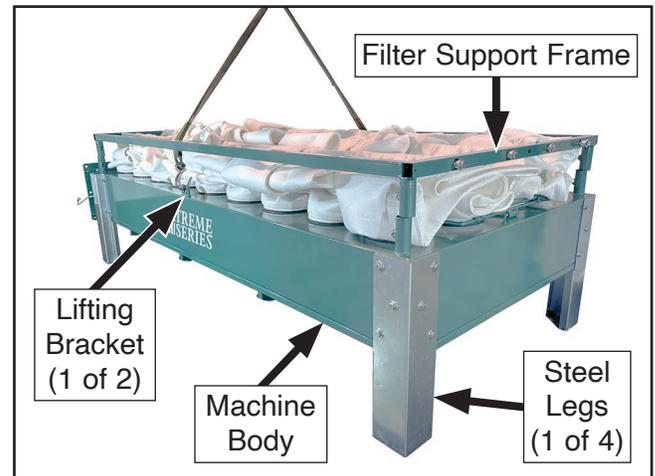

Figure 30. Location of filter support frame, lifting brackets, and pre-installed steel legs.
5. Secure lifting straps with hooks to lifting brackets on front and rear of machine body (see **Figure 30**).
6. Lift machine body 45" from ground, then remove pallet and (4) pre-installed steel legs (see **Figure 30**). Save fasteners for later use.